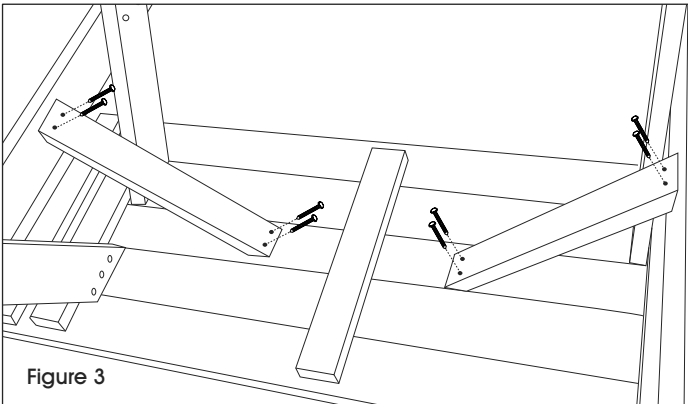

Figure 3
7. Make sure the legs are perpendicular to the table top to ensure table top is level. Pre-drill and attach diagonal braces using four  $2\frac{1}{2}$ " wood screws to the cross-member and preassembled table top. (See Figure 3)